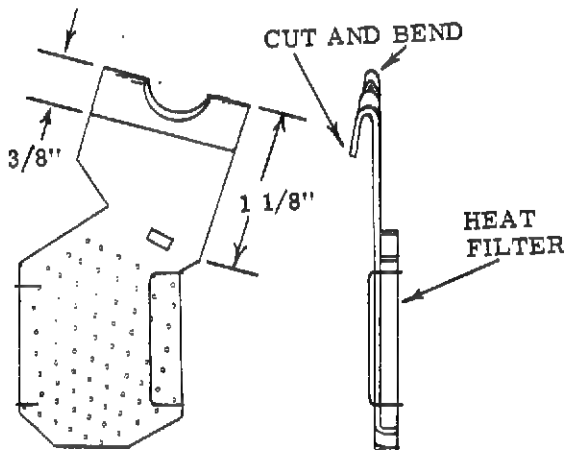

Figure 3-28. MODIFIED SAFETY SHUTTER (42994-G1)
5. Modify a discarded 42994-G1 Safety Shutter as shown in (Figure 3-28). (A similar heat filter may be used)